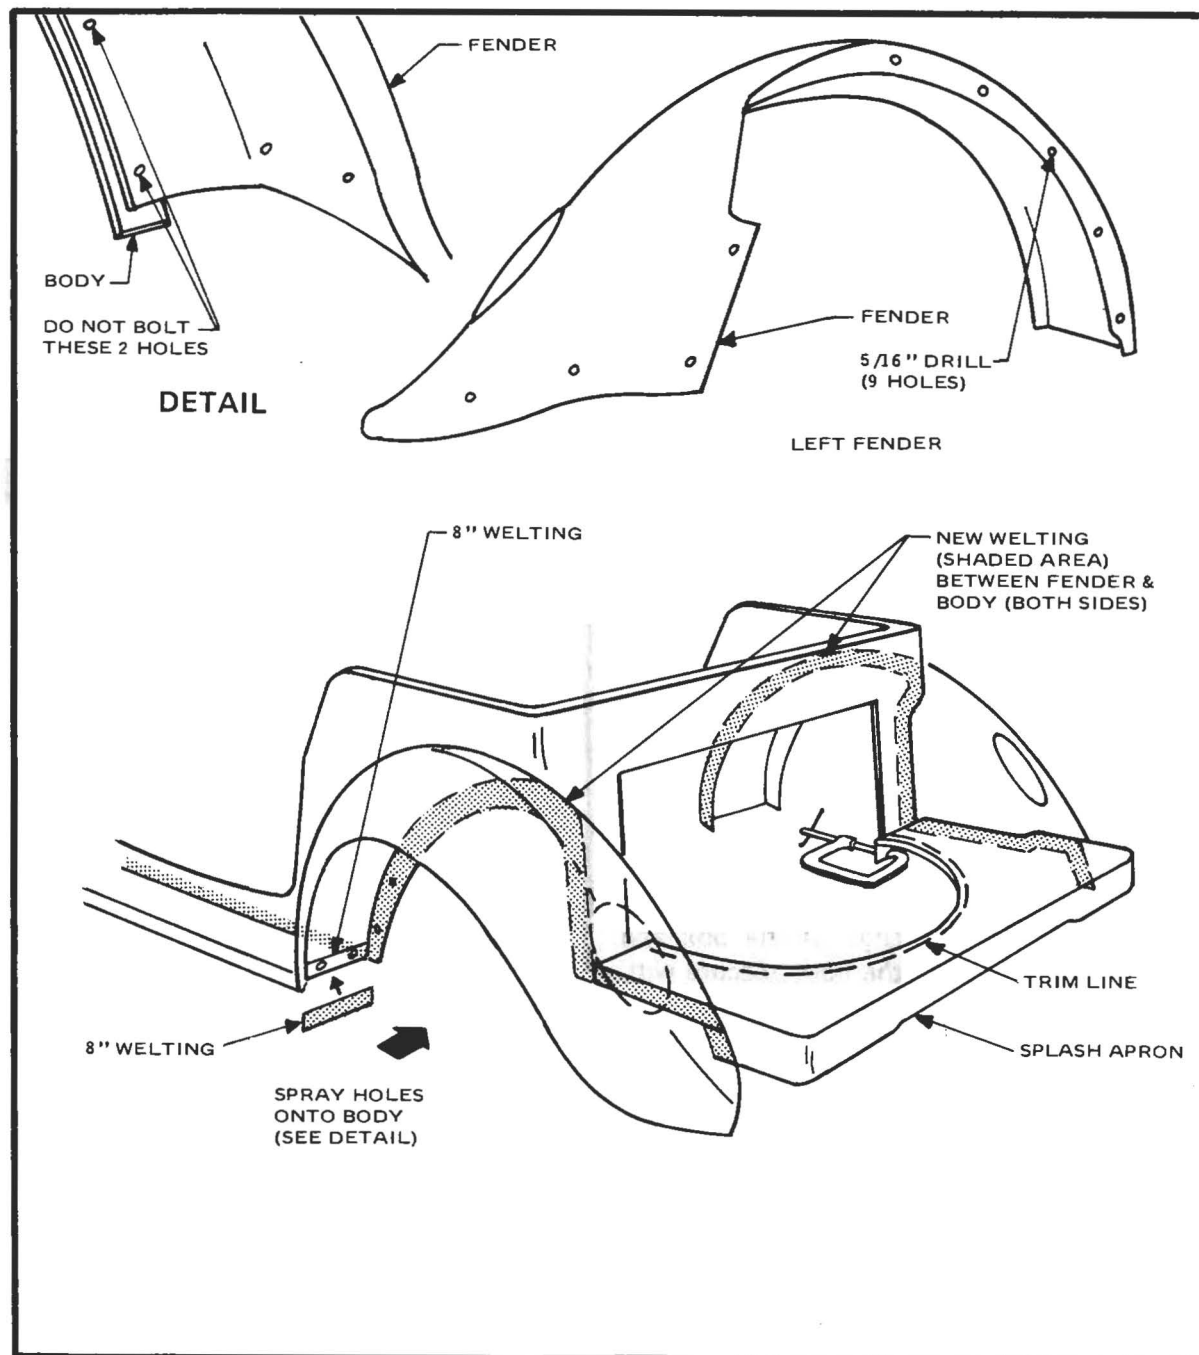

Figure 32
- Drill as per diagram (5/16"). (Figure 32) Align front of fender with rear of running board. The rest of the fender will fit into place, indexing with the rear body. Clamp to body and running board. Do not bolt.
- Clamp rear cover onto body centering it from left to right approximately 1 1/8" down from the top. Trim splash apron as per diagram. (Apron should just clear engine sheet metal flange. Splash apron will mate with fenders. (Figure 32) Clamp to body and fenders, making sure splash apron is tight up against rear cover. Adjust fenders as necessary to obtain a good fit.
- Using flat black spray paint spot each hole in the fender onto the body and splash apron. Also spray the under side of the running boards onto the forward edge of the fender. Remove clamps from fenders and drill through all spot marks (5/16" drill). (Do not remove splash apron from body.) Reinstall fenders and bolt through all holes except those indicated (5/16 x 1 1/4"). (Figure 32) Finger tighten.